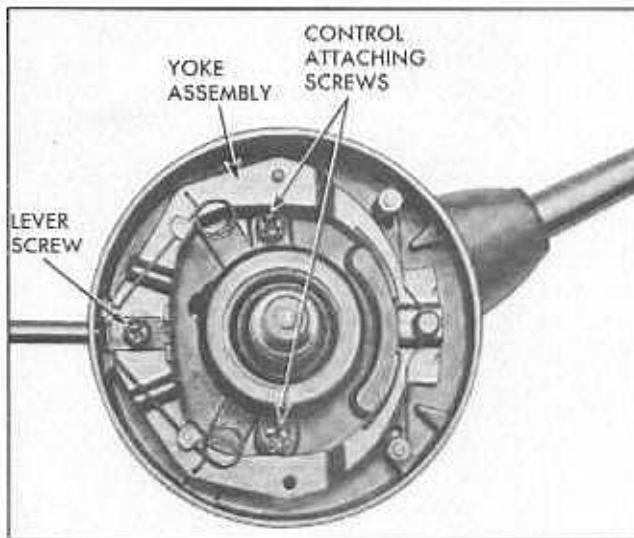

Fig. 7-6 Directional Signal Control
3. Remove direction signal housing by removing two attaching screws (Fig. 7-6). When removing direction signal housing, withdraw wiring harness carefully from opening in steering column.